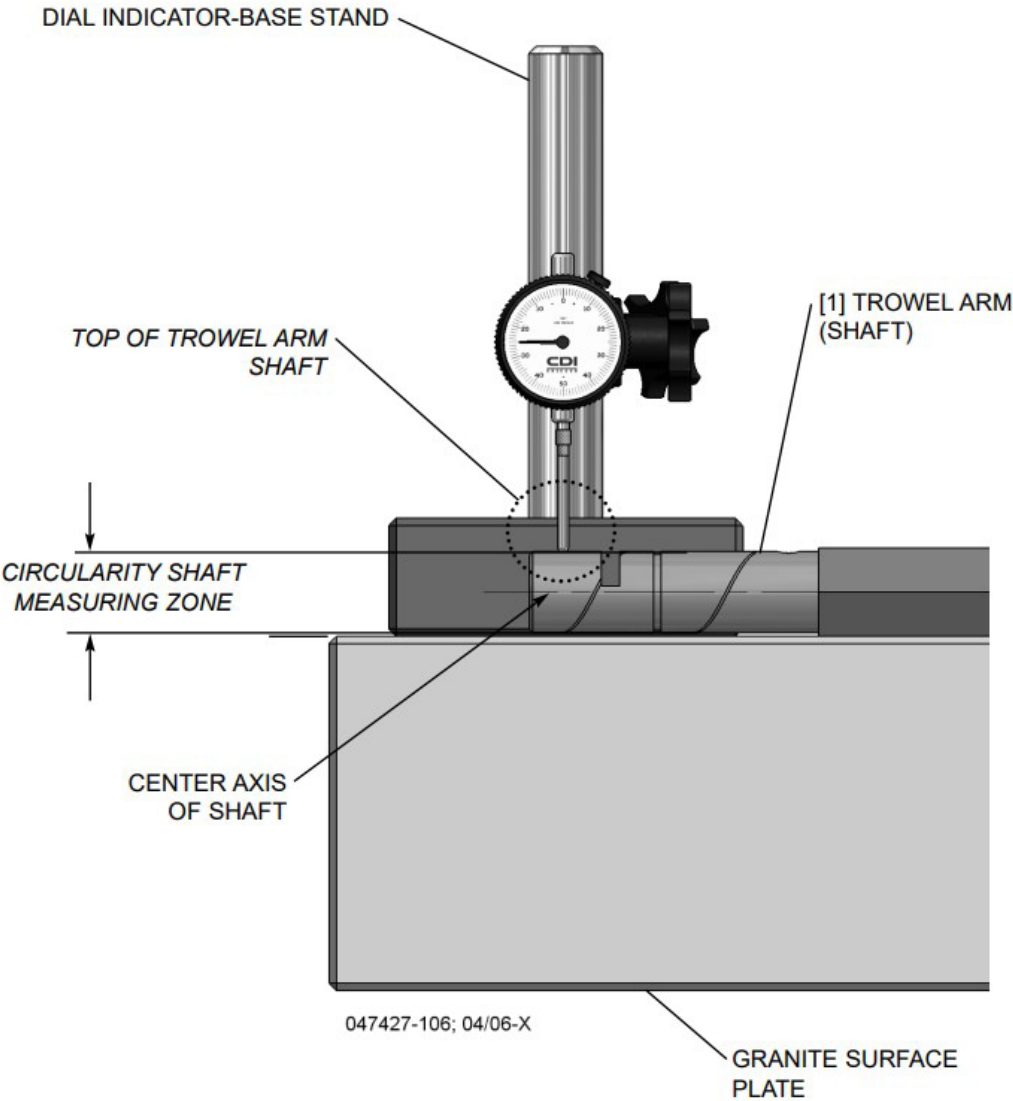

Figure 1.4-5
- Step 3:** Using a dial indicator or applicable feeler thickness gage, inspect for any signs of circularity defects that might affect the diameter feature of the trowel arm shaft. Check for any abnormal out-of-roundness, bent axis, or oblong defectives. Refer to Figure 1.4-5.